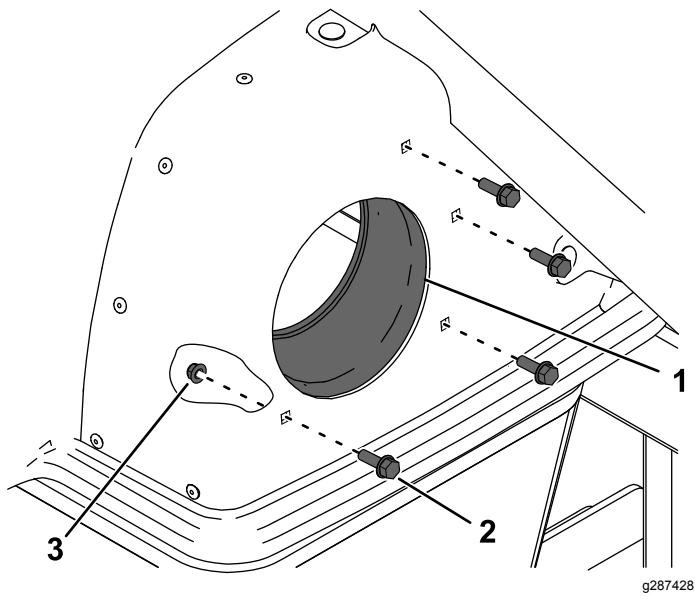

Figure 4
1. Knob (4)
2. Blower clamp (2)
- On the hood, remove the existing 4 bolts, 4 nuts, and hood adapter (Figure 4).
6. Install the new hood adapter using 4 bolts and 4 nuts in the new mounting holes (see Figure 4). Torque the bolts to 10.2 to 12.4 N·m (90 to 110 in-lb)